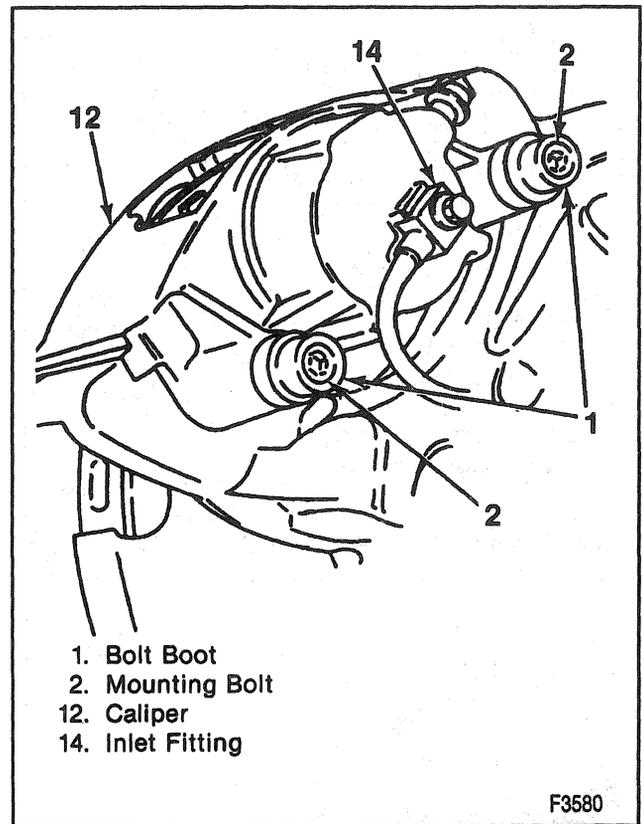

Figure 5—Caliper Attachment (Delco)
4. Compress piston using adjustable pliers over inboard lining (7) tab and caliper housing flange (12).
5. Brake hose from caliper by removing inlet fitting bolt (14).
6. Mounting bolts (2) (Figure 5).
7. Bolt boots (1).
8. Caliper (12).
9. Mounting bolt seals (4) if used.
10. Bushings (3).
Install or Connect (Figures 5 through 14)